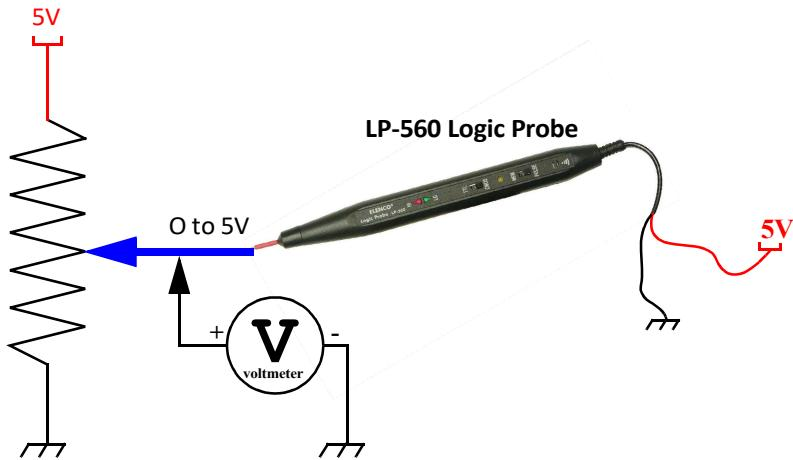

Figure 3: Voltage Measurements on the Inputs and Outputs of the 74LS04 IC
- Simultaneously connect the multimeter and the LP-560 Logic Probe across the middle lead of the potentiometer and as shown in Figure 3. Then carefully turn it so that the voltage across the tab lead varies from 0 to 5 volts. Record V_{IL} and V_{IH} for both TTL and CMOS. This is accomplished by performing the experiment twice -- once with the Logic probe in TTL mode and once when it is in CMOS mode.